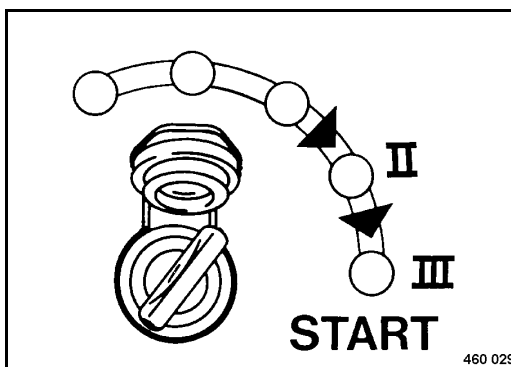

Fig. 59
- Turn the ignition key (Fig. 59) through position "II" to position "III", the starter will crank the engine.